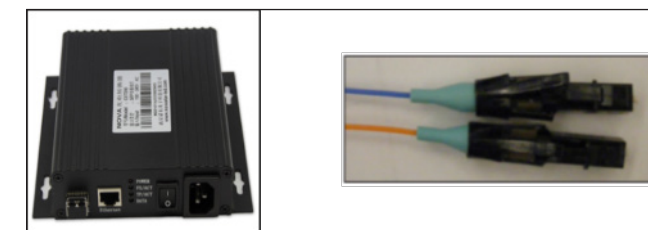

Figure 28: CAT/fiber Box and Fiber Cable
4. The Cat6 cable is a maximum of 150 m long. For installations exceeding this length, use the Cat6/fiber box to change the Cat6 cable to fiber cable. The fiber cable can offer 850 m of additional length for the signal connection. Refer to **Figure 28**.